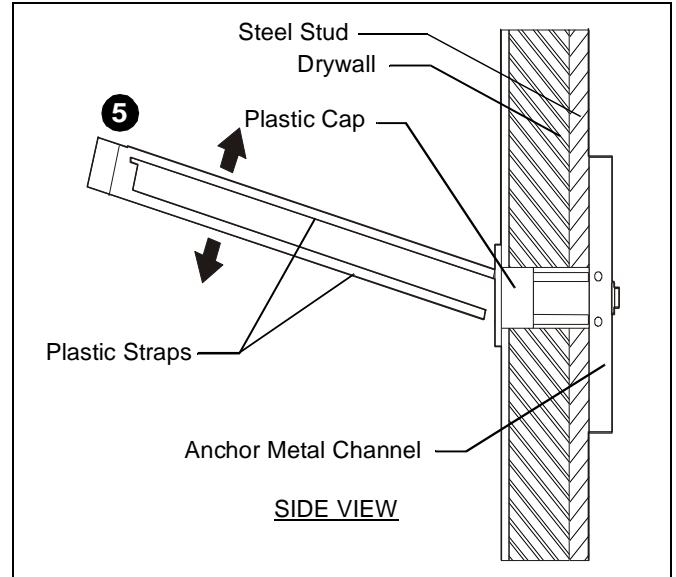

Figure 3
5. Snap off plastic straps on anchor at wall by pushing side to side, snapping off straps level with flange of plastic cap. (See Figure 3)